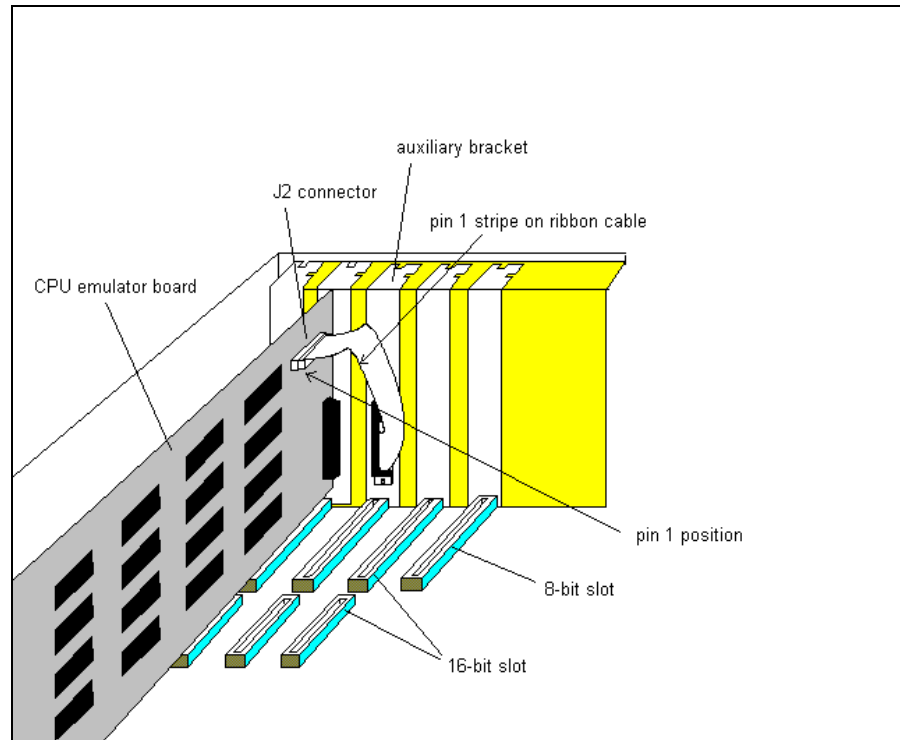

Figure 2-1 ; Installing the CPU Emulator Board
5. Gently place the card in the 16-bit slot and align the card edge-connector gold fingers with the two connectors on the motherboard. See figure 2-1.
9. Take the IDC 26-pin connector and plug it into the header labeled J2 on the CPU emulator board. The J2 header can be found just below the white "Calyx" logo. **The connector must be plugged so that the colored stripe on the ribbon cable is towards the front of the computer.** Refer to figure 2-1 for the correct cable position. Plugging the connector is done easier if it is held at an angle so that one corner of the connector is inserted first.